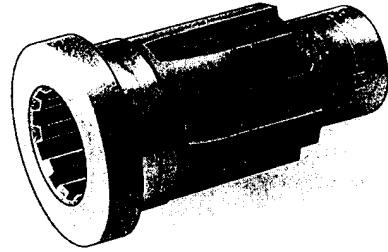

Figure 3-21. Sprocket Shaft Engine Rotation Tool
- c. **With engine mounted in engine stand** - Fashion tool as follows: Obtain used or discarded compensating sprocket shaft extension (HD-40266-85). Weld a 13/16 in. socket with a 1/2 in. drive to outboard side of extension. See Figure 3-21. Install tool on sprocket shaft and rotate in a counterclockwise direction until the base circle is found. Continue with step 4.